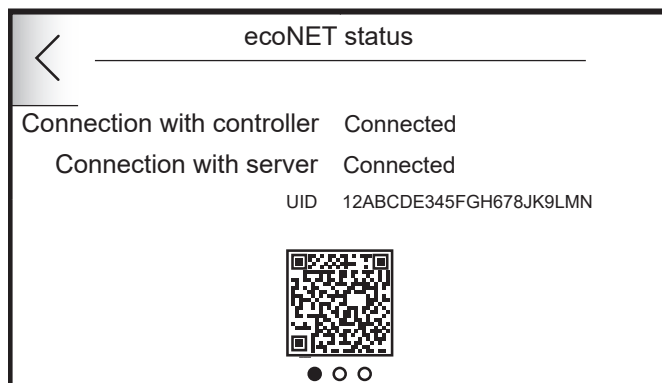

Figure 10-7: ecoNET connection status
4. Tap 'ECONET STATUS'. Refer to Figure 10-7 for connection status display.